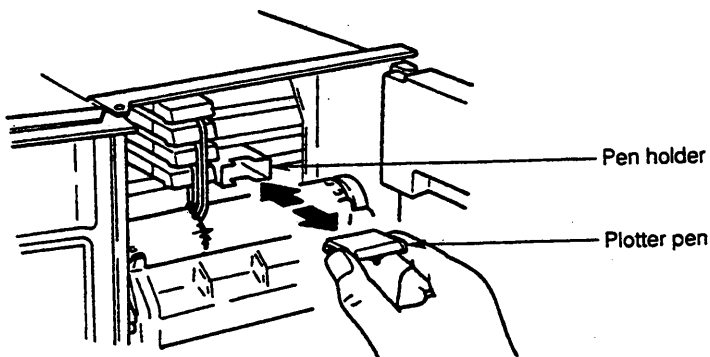

Figure 3-8. Plotter Pen Replacement
3. While grasping the plotter holder, gently slide the plotter out of the holder (see Figure 3-8).
4. Remove the pen cap and insert a new plotter pen in the holder (see Figure 3-8). If it is difficult to replace the plotter pen, use the "Second Procedure," described above.